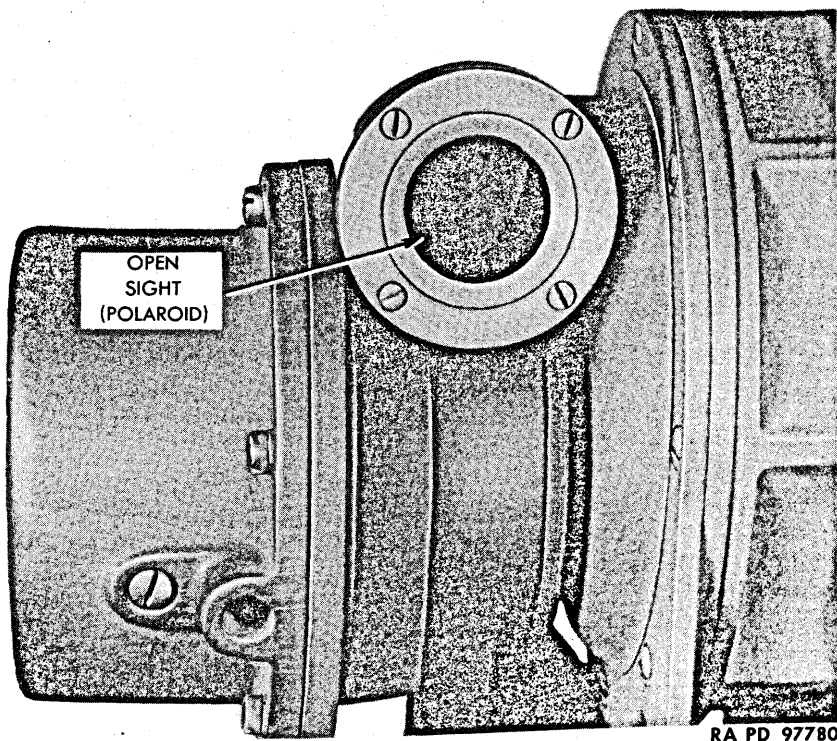

Figure 13. Open sight on left end of range finder M10.
a. **RANGE FINDER OPEN SIGHT (INFINITY SIGHT OR RING SIGHT)** (fig. 13). The purpose of the open sight is to pick up the target quickly and to bring it (target) into the field of view of the director telescopes. It is a polaroid sight having a broad field of view with a series of concentric circles. The sight is a component of and is located on the left end of the range finder (fig. 8).